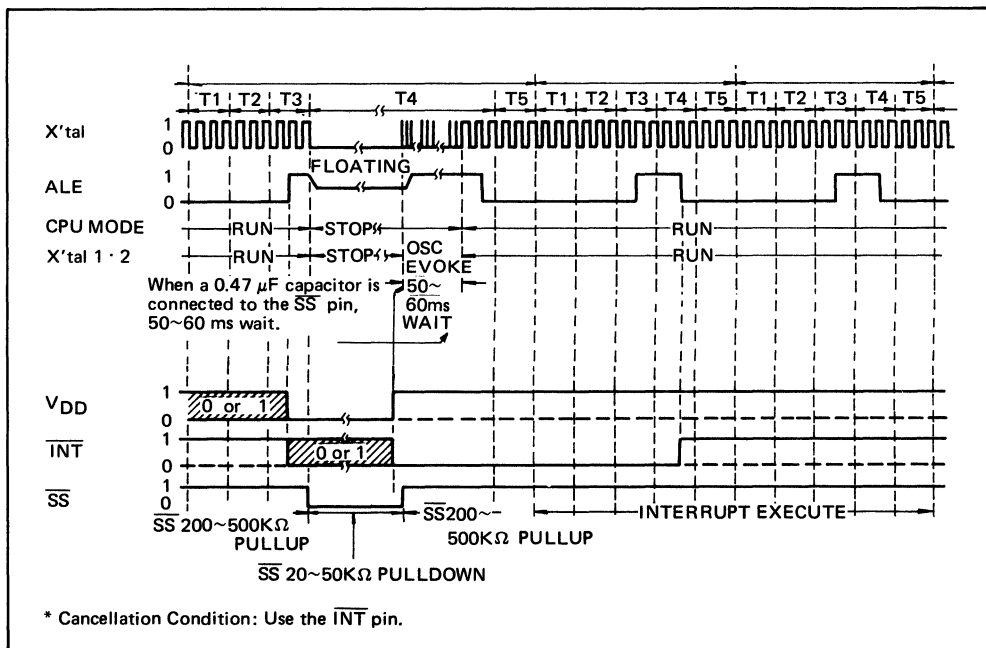
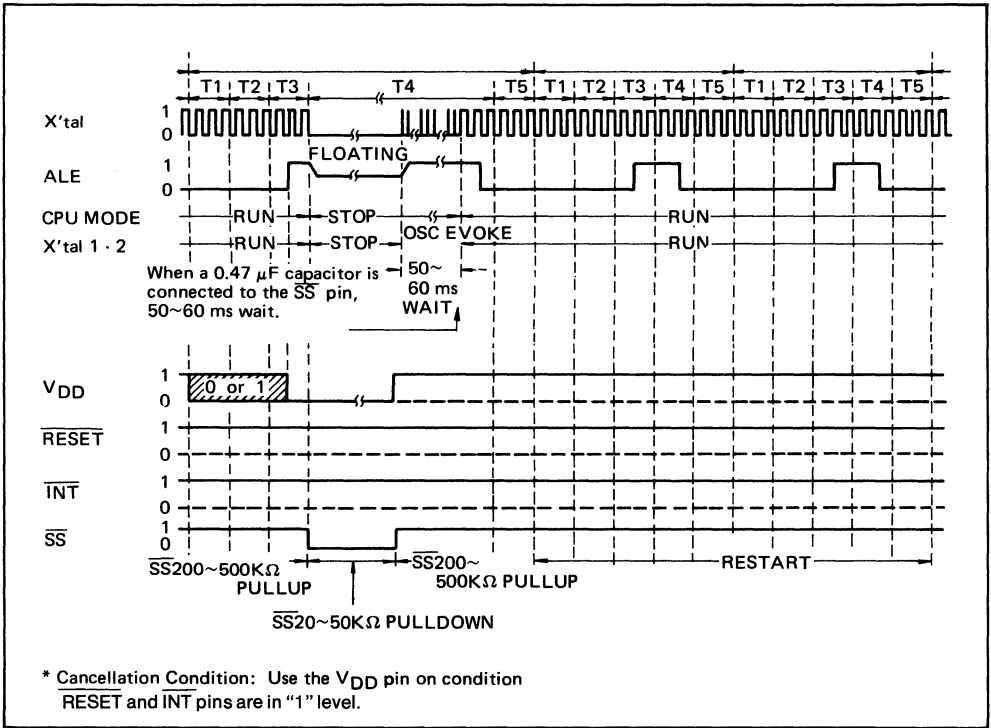

Fig. 4-6 Hardware Power-Down Mode Timing Chart
Fig. 4-7 Hardware Power-Down Mode Timing Chart
However, if the power-down mode is started during an interrupt processing routine, execution will be continued on the next instruction after the present instruction. The timing chart is outlined in Fig. 4-6.
- (3) Use of the  $\overline{\text{INT}}$  pin during external interrupt disabled mode (i.e. following execution of DISI instruction or hardware reset)
- The clock generator is activated and the CPU started up when a "1" level is applied to the  $V_{DD}$  pin while a "0" level is applied to the  $\overline{\text{INT}}$  pin. If this "0" level is maintained until at least 2 ALE output signals occur, execution is continued on the next instruction after the present instruction. The timing chart is outlined in Fig. 4-6.
- (4) Use of  $V_{DD}$  pin only
- The clock generator is activated and the CPU started up when a "1" level is applied to the  $V_{DD}$  pin while a "1" level is also applied to both the  $\overline{\text{RESET}}$  and  $\overline{\text{INT}}$  pins. In this case, execution is resumed from the stopped position. The timing chart is outlined in Fig. 4-7.